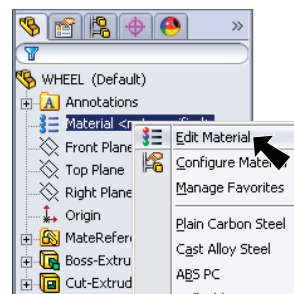

Fig. 22
Step 1. **Right click Material**  in the Feature Manager and click **Edit Material**, Fig. 22.